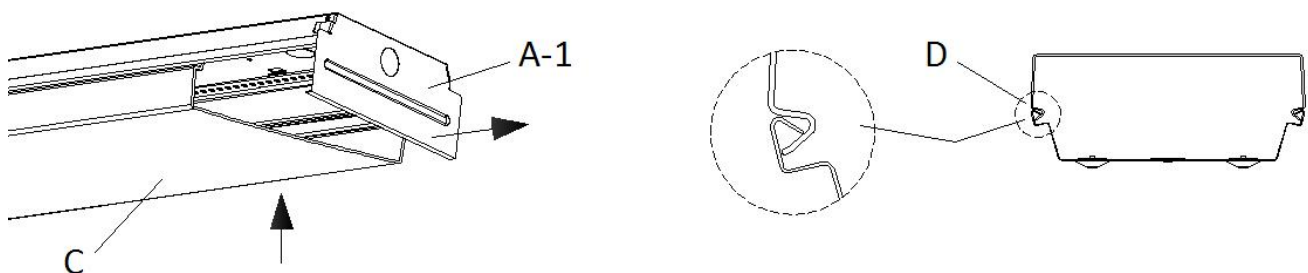

Figure 6
4. Gently pull the plate(A-1) along the arrow,To install diffuser(Part C) starting at one of housing insert diffuser slot onto edge of housing-see Fig6 Carefully squeeze diffuser to engage opposite side with housing.Continue this action down length of diffuser until fully installed onto housing.(Figure6)